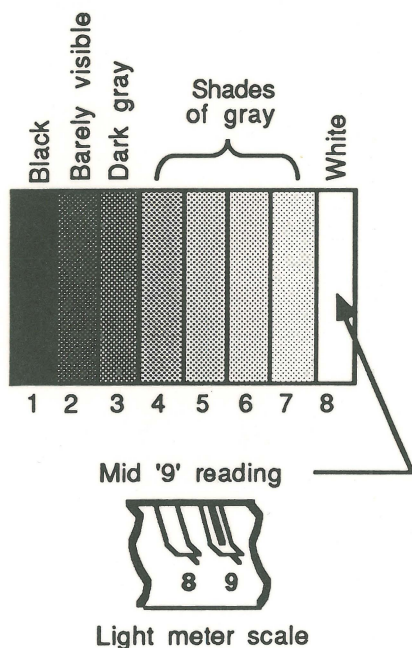

FIGURE 2
- Bar 2 and Bar 3 are barely visible and dark gray, respectively, as shown in Figure 2.
the center of bar 8 (the brightest bar) measures at the mid '9' scale on the light meter (see Figure 2).
NOTE: If there is no predominant color, bar 8 measures at mid '9' on the light meter, and bars 1-3 are adjusted as shown in Figure 2, the white balance is correct. If minor adjustments are still required, do steps 8 and 9.